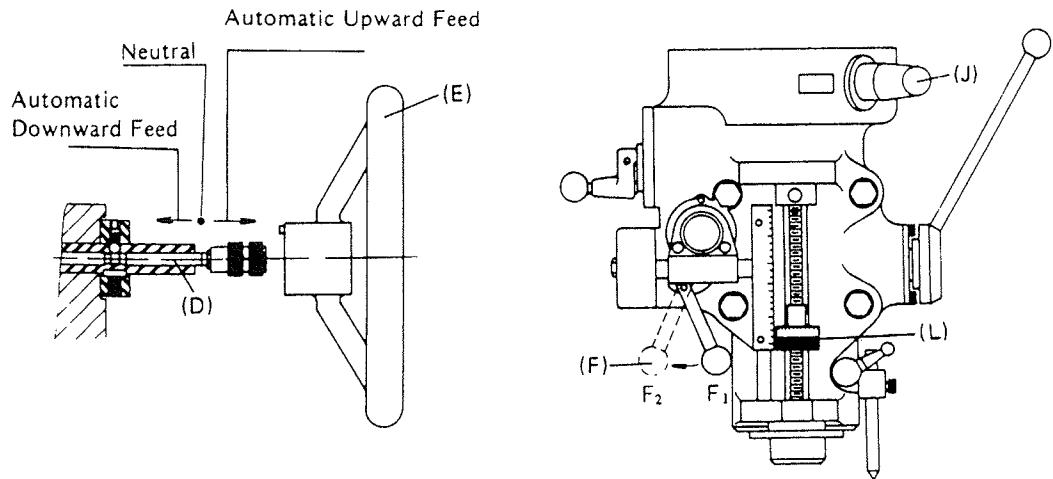

Figure 11
Note: In manual feed, the feed control handle "F" (Fig. 11) must be in the "F1" position.
To use the manual micro-feed, the power-feed transmission lever (J) (Fig. 11), must placed at the "OUT" position and the feed reverse knob (D), (Fig. 11) must be in the neutral position. To engage the overload clutch, lever "F", (Fig. 11) must be moved to the "F2" (Fig.11). You can now turn handwheel "E" clockwise to lower the spindle, counter clockwise to raise it.
- e. The quill will move down when Pressing knob "D" (Fig. 11) in, and pulling it out, the quill will go up. (The middle is neutral).